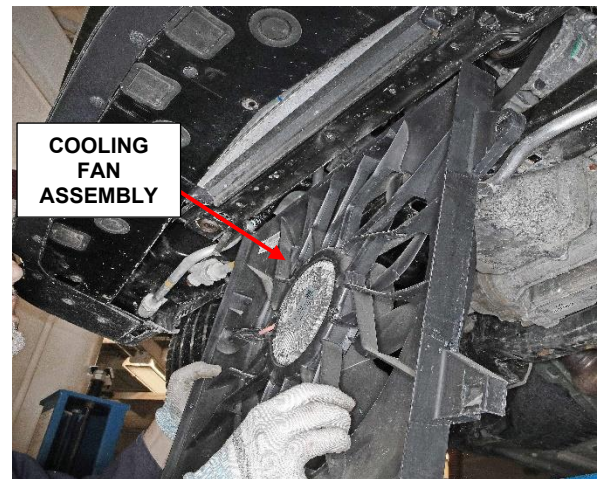

Figure 7 – Cooling Fan Removal
13. Pushing gently forward on the lower radiator support, remove the cooling fan from the bottom of the vehicle (Figure 7).